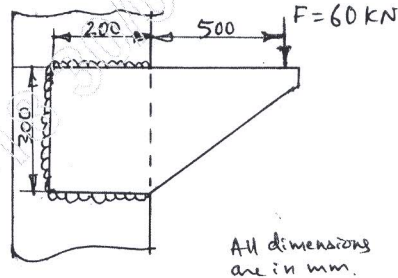

Fig.Q8(c)
- c. Determine the size of the weld required for a flat plate welded to a steel column and loaded as shown in Fig.Q8(c). The permissible shear stress for the weld material is 70 MPa. (10 Marks)